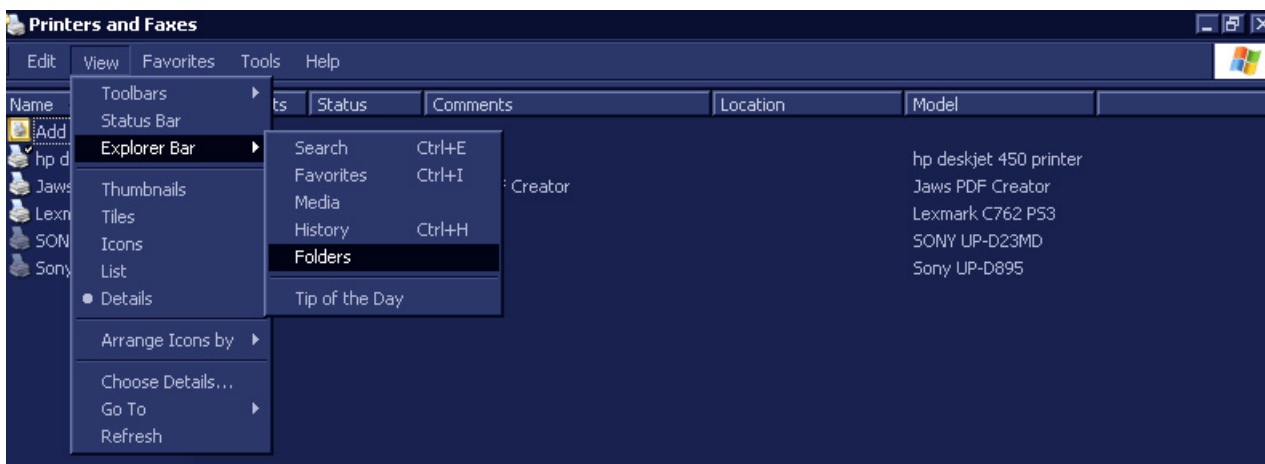

Figure 8-17 View Menu
- 27.) From the View Menu, select **Explorer Bar > Folders**, as shown in Figure 8-17 below).